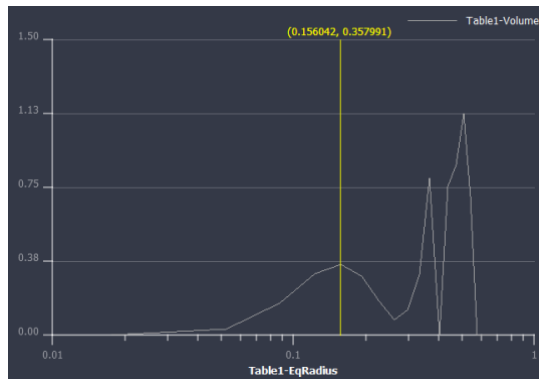

Figure 22.20: Pore Size Distribution
- The distribution curve as shown in Figure 22.20 is displayed using a *Plot Spreadsheet*